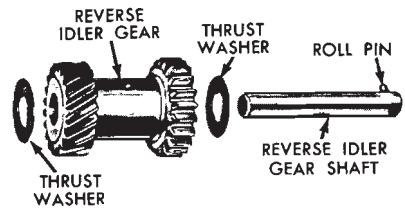

FIG. 13—Reverse Idler Shaft Disassembled
22. Lift the reverse idler gear and two thrust washer (Fig. 13) from the case. Lift the countershaft gear, thrust washer, and dummy shaft from the case.